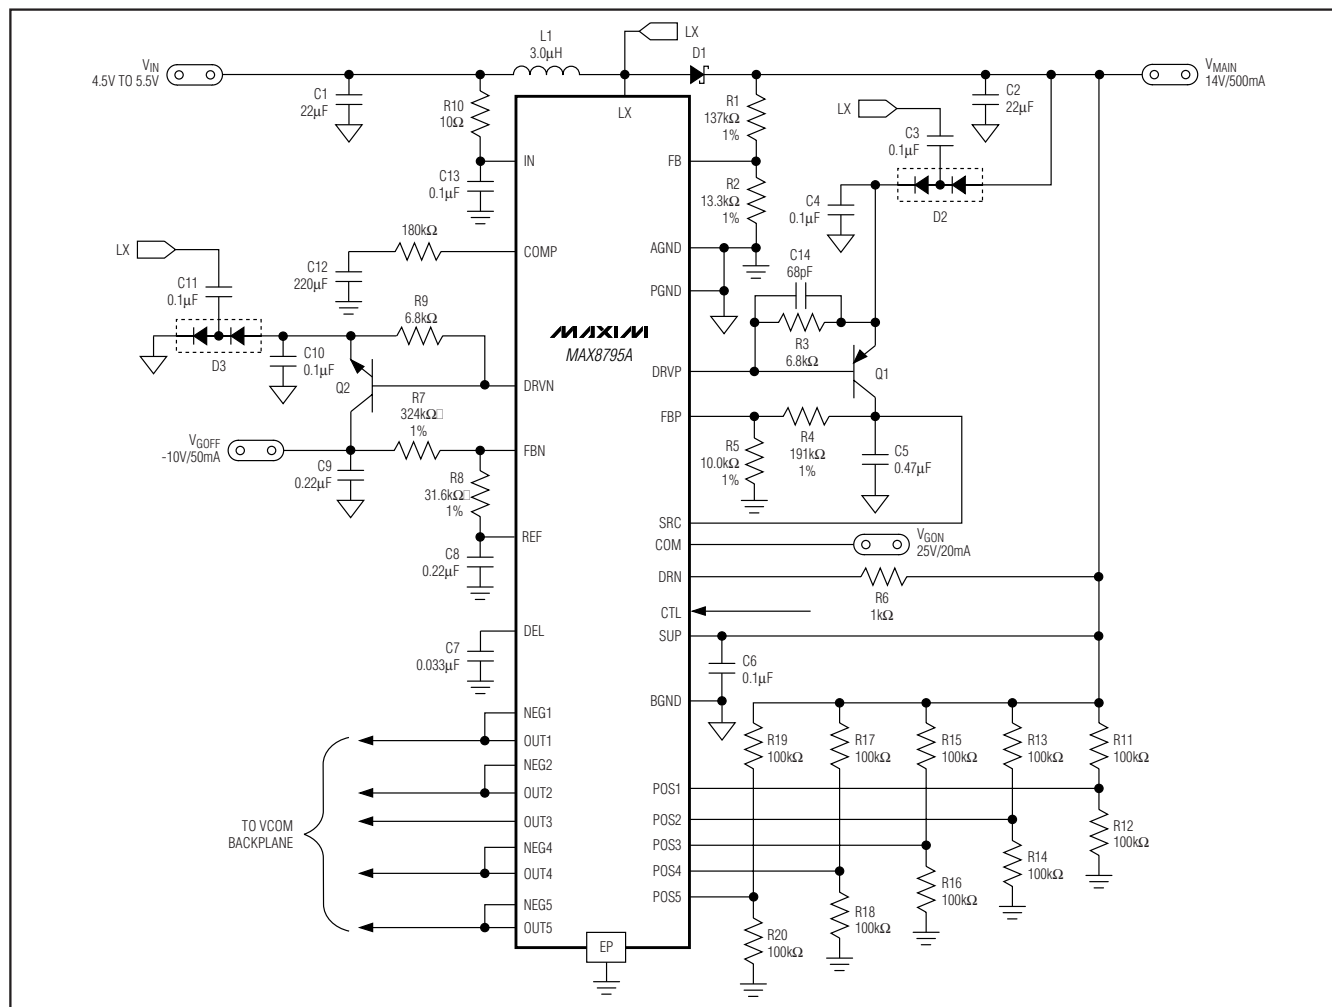

Figure 1. Typical Operating Circuit
(Circuit of Figure 1, $V_{IN} = 5V$, $V_{MAIN} = 14V$, $V_{GON} = 25V$, $V_{GOFF} = -10V$, $T_A = +25^\circ C$, unless otherwise noted.)
The MAX8795A typical operating circuit (Figure 1) is a complete power-supply system for TFT LCDs. The circuit generates a +14V source-driver supply and +25V and
-10V gate-driver supplies. The input voltage range for the IC is from +2.5V to +5.5V. The listed load currents in Figure 1 are available from a +4.5V to +5.5V supply. Table 1 lists some recommended components, and Table 2 lists the contact information of component suppliers.
The gate-on linear-regulator controller (REG P) is an analog gain block with an open-drain n-channel output. It drives an external pnp pass transistor with a 6.8kΩ base-to-emitter resistor (Figure 1). Its guaranteed base-drive sink current is at least 1mA. The regulator including Q1 in Figure 1 uses a 0.47μF ceramic output capacitor and is designed to deliver 20mA at 25V. Other output voltages and currents are possible with the proper pass transistor and output capacitor. See the *Pass-Transistor Selection* and *Stability Requirements* sections.
The gate-off linear-regulator controller (REG N) is an analog gain block with an open-drain p-channel output. It drives an external npn pass transistor with a 6.8k Ω base-to-emitter resistor (Figure 1). Its guaranteed base-drive source current is at least 1mA. The regulator including Q2 in Figure 1 uses a 0.47 μ F ceramic output capacitor and is designed to deliver 50mA at -10V. Other output voltages and currents are possible with the proper pass transistor and output capacitor (see the *Pass-Transistor Selection* and *Stability Requirements* sections).
REG N is typically used to provide the TFT-LCD gate drivers' gate-off voltage. A negative voltage can be produced using a charge-pump circuit as shown in Figure 1. REG N is enabled after the voltage on REF exceeds 1.0V. Each time it is enabled, the control goes through a soft-start routine that ramps down its internal reference DAC from VREF to 250mV in 128 steps.
The input capacitor (C_{IN}) reduces the current peaks drawn from the input supply and reduces noise injection into the IC. A 22 μ F ceramic capacitor is used in the typical applications circuit (Figure 1) because of the high source impedance seen in typical lab setups. Actual applications usually have much lower source impedance since the step-up regulator often runs directly from the output of another regulated supply. Typically, C_{IN} can be reduced below the values used in the typical applications circuit. Ensure a low-noise supply at IN by using adequate C_{IN} . Alternately, greater voltage variation can
be tolerated on C_{IN} if IN is decoupled from C_{IN} using an RC lowpass filter (see R10 and C13 in Figure 1).